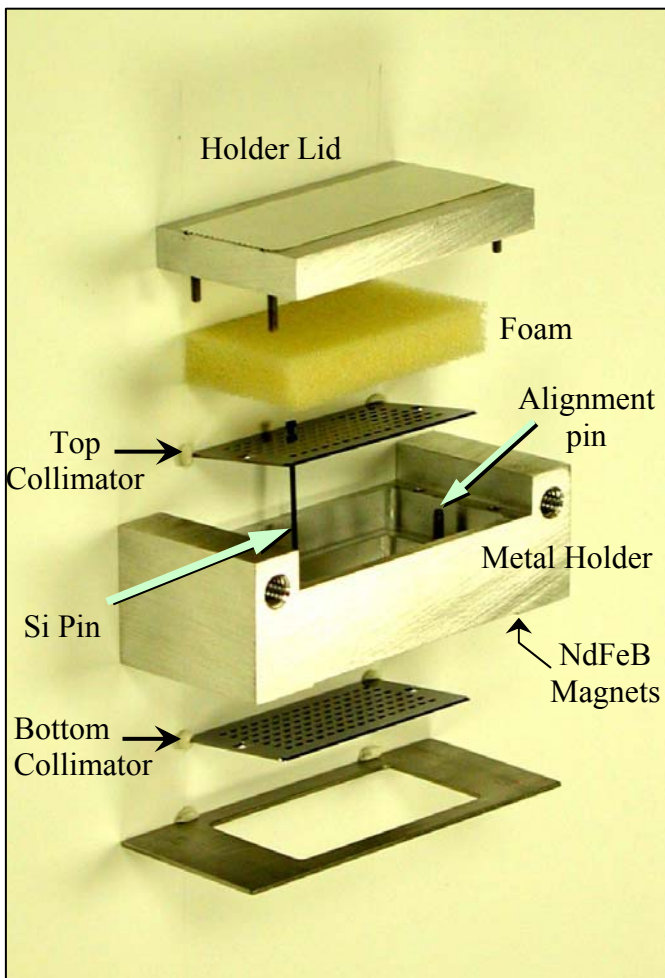

Fig. 4 Disassembled view of the silicon pins and printhead
The disassembled view of the printhead is shown in Fig. 4, which consists of
- g) Place the foam on top of the pins and secure the lid to the metal holder as shown in Fig. 4